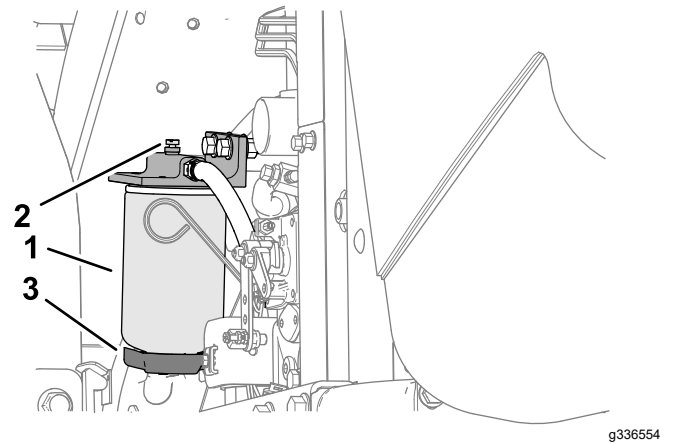

Figure 77
4. Loosen the drain valve on the bottom of the filter canister (Figure 77).
3. Clean the area where the filter canister mounts (Figure 77).